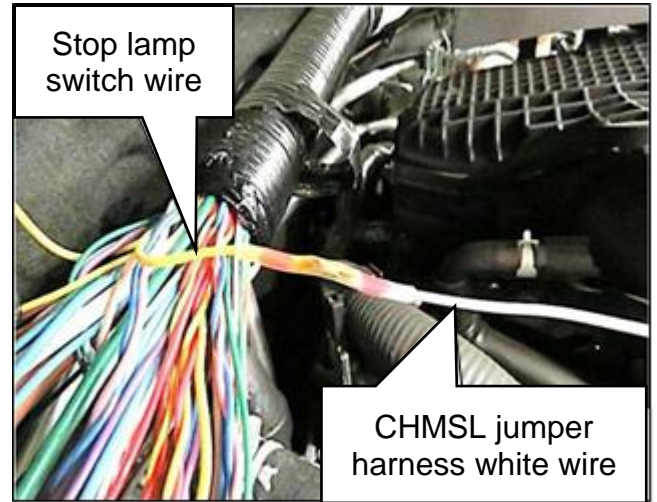

Figure 41
36. Connect the CHMSL jumper harness' white wire to the driver (LH) side stop lamp switch yellow wire end using a solder sleeve connection.
- Heat the solder sleeve, using a flameless heat gun, special tool J-46538, until the solder has been fully melted into the wires, as shown in Figure 41